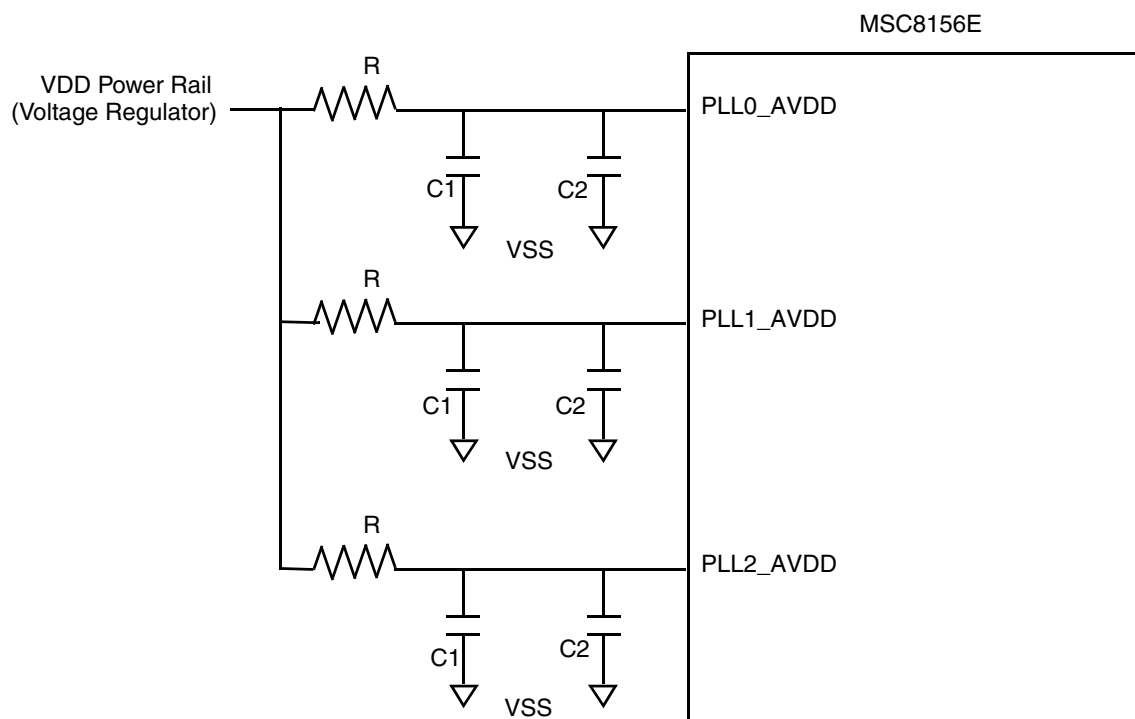

Figure 37. PLL Supplies
- Couple inputs PLL1_AVDD, PLL2_AVDD and PLL3_AVDD with the VDD power rail using an RC filter (see Figure 37).
Each global PLL power supply must have an external RC filter for the PLLn_AVDD input (see Figure 37) in which the following components are defined as listed: